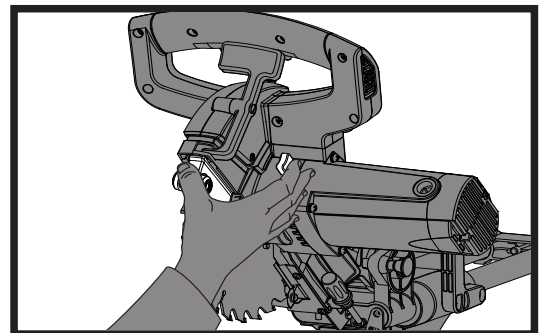
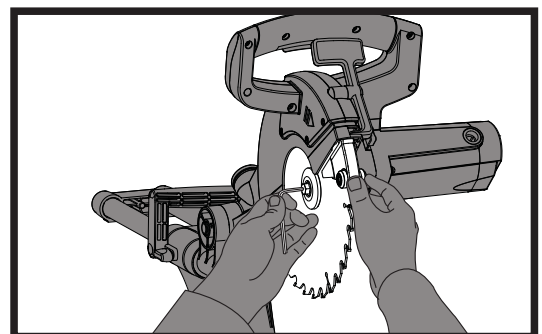

Fig 13
Fig 14
- For clarity the operators hands are shown in figs 13 and 14. We recommend that the operator considers wearing protective gloves when handling or installing the blade.
- 6) Hold the guard in position with your thumb and press the spindle lock gently with a finger. (See fig. 13) Rotate the blade using the correct sized allen key inserted into the arbor bolt (See fig. 14) until positive location is felt.
- 5) Press the arbor lock, holding gently while turning the blade counterclockwise. When arbor lock engages, continue to press it in firmly while tightening the arbor bolt securely. (See fig. 14)